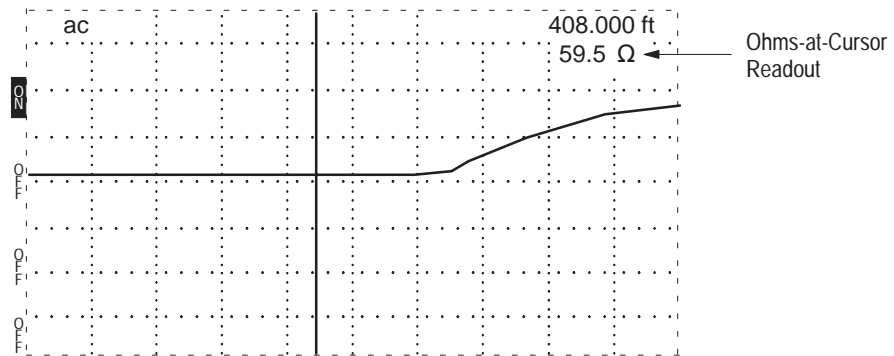

Figure 2-10: Ohms-at-Cursor
6. Turn the  $\langle \triangleright \rangle$  POSITION control to set the cursor near the end of the cable as illustrated (see Figure 2-10).